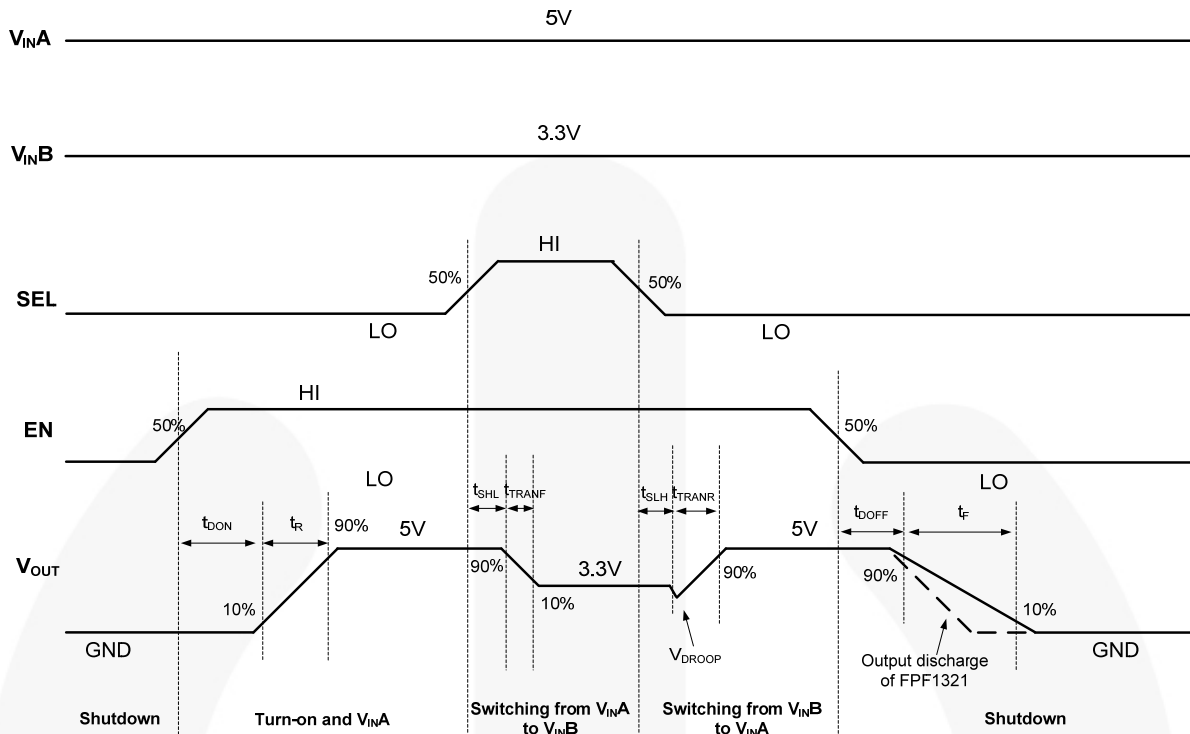

Figure 5. Dynamic Behavior Timing Diagram
- $t_{DON}/t_{DOFF}/t_R/t_F/t_{TRANR}/t_{TRANF}/t_{SLH}/t_{SHL}$ are defined in Figure 5.